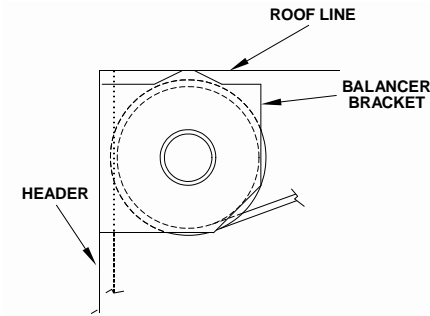

FIGURE 7
- b.) Wind cable into cable drum following grooves. It is important that the end of cable is inserted fully into notch. If this is not done properly, it could interfere with drum movement. Cable should come off of **bottom** of drum and connect to door. **SEE FIGURE 7**